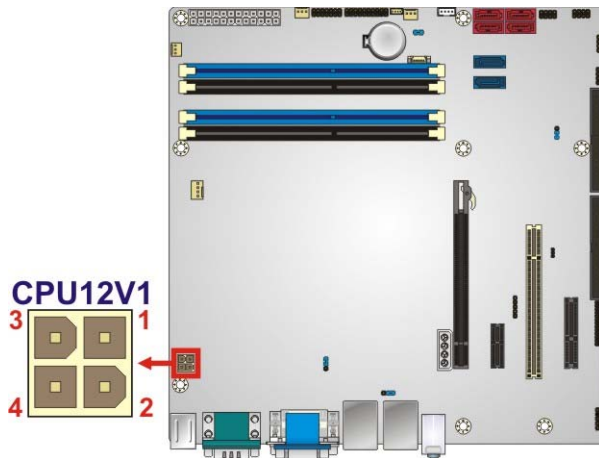

Figure 3-5: CPU Power Connector Location
- CN Location:** See **Figure 3-5**